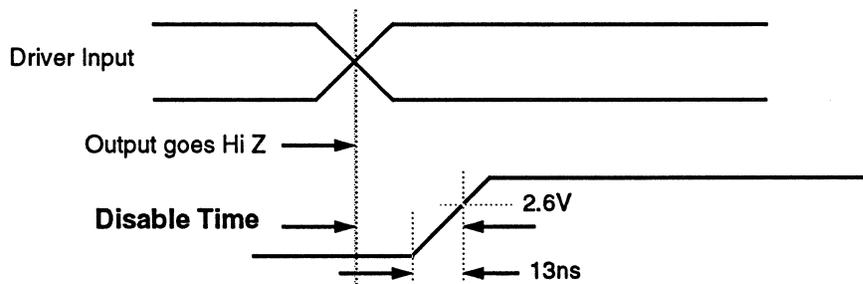

Figure 53: Disable Times Specification
- (1) MCLK timings measured between clock edges at 50% of Vdd.
- (2) The timings of these buses are measured to TTL levels.
- (3) Tabth1 is a requirement for ARM610. To ensure compatibility with future processors, designs should meet Tabth2. Tabth2 is not tested on ARM610.
- (4) See *Figure 53: Disable Times Specification*.
- (5) See *13.2.2 Tald Measurement*.